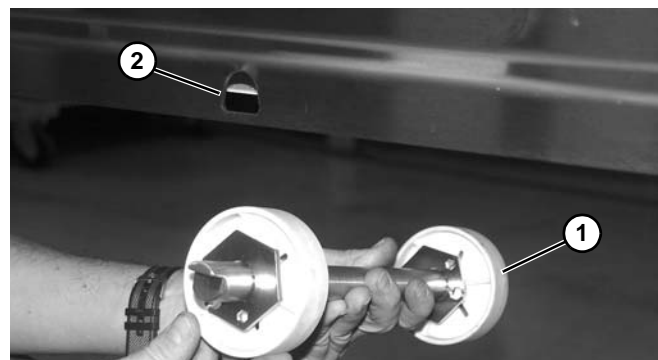

Figure 35
3. Install belt return assembly (Figure 35, item 1) onto the slotted holes (Figure 35, item 2) on each side of conveyor frame.